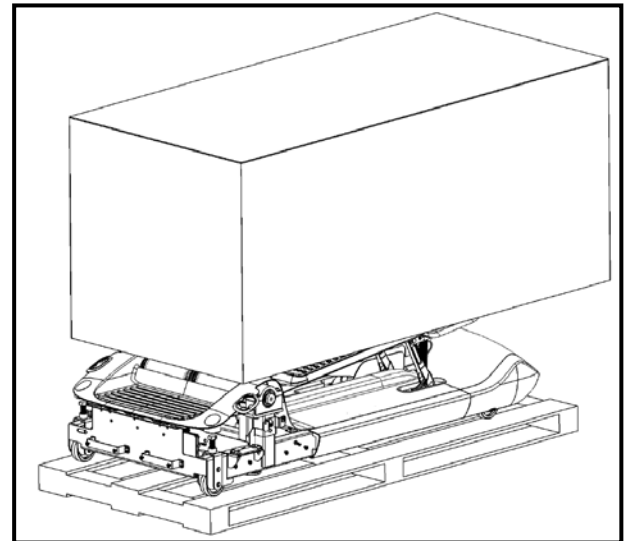

Fig. 2
2. Cut all straps to remove the cardboard packaging along with any protective wrapping to expose the palletized TreadClimber base (Fig. 2).